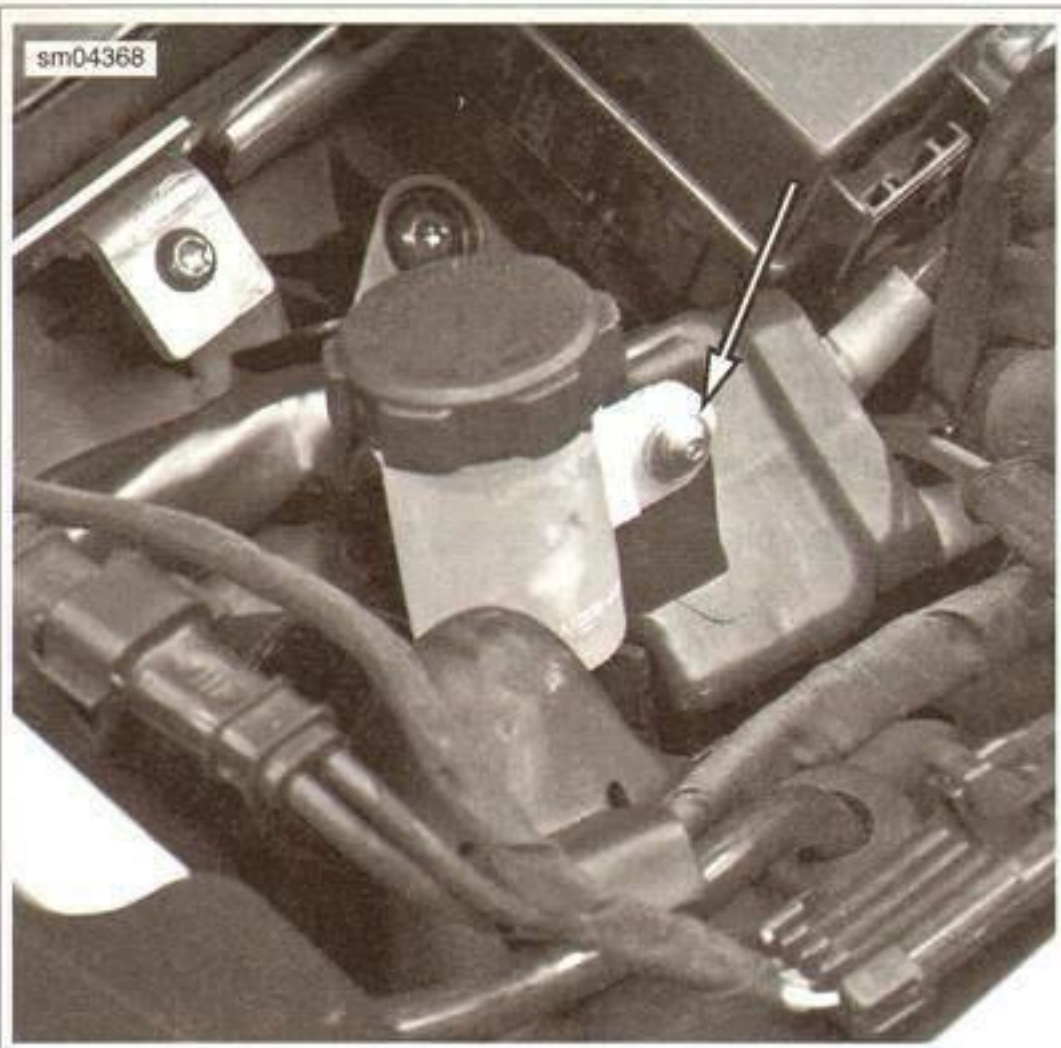

Figure 2-72. Brake Fluid Reservoir Fastener
2. See Figure 2-72. Remove the fastener and washer securing the reservoir to starter solenoid cover.